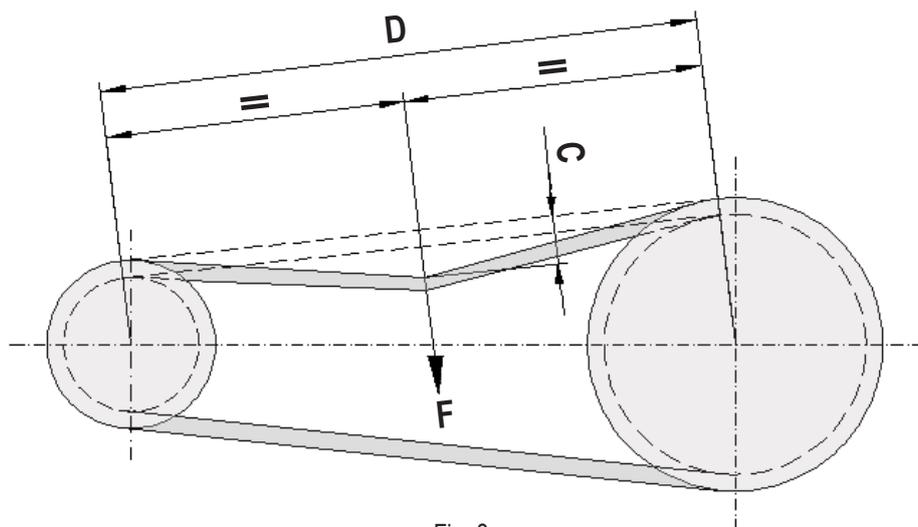

Fig. 8
2. measure free length of the distance "D" (Fig. 8);
3. apply on the central point of the free distance "D" a force "F", as indicated in the table of Fig. 8, according to the cross section of the belt used (for belt type and section see the "TECHNICAL SCHEDULE" attached);
- after an operation period of 12-24 hours, re-check belt tension and adjust it to the values shown on the table of Fig. 8.